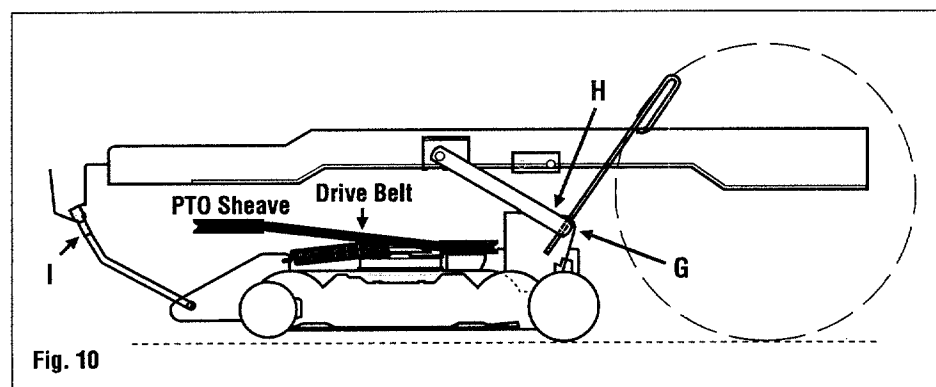

Fig. 10
2. Remove click pin and clevis pin from lift bracket (G, Fig. 10), releasing lift bracket from lift link (H).
3. Pull click pin from stud at rod ends (I). Disconnect rod ends from studs on frame.